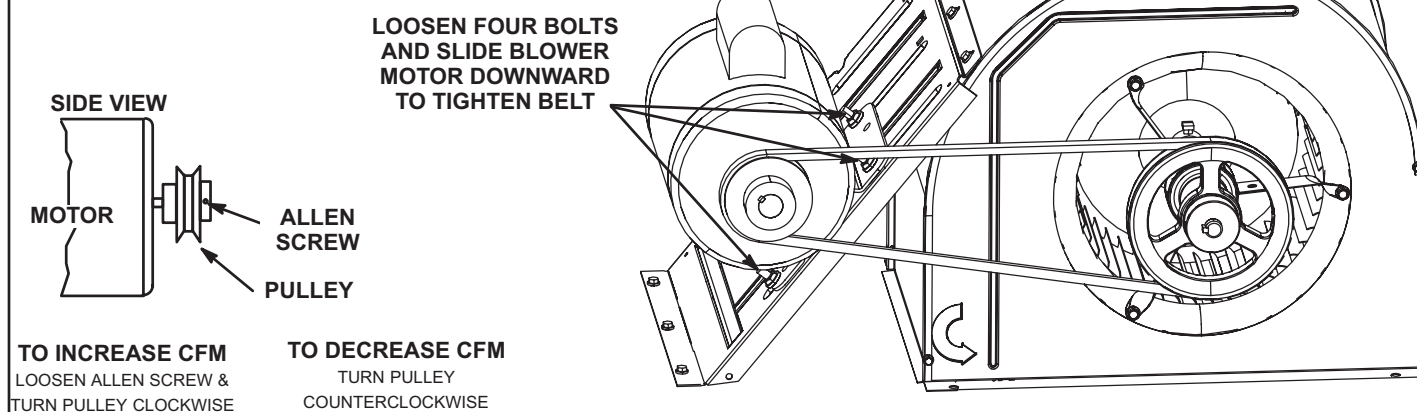

FIGURE 10
- 5 - The blower RPM can be adjusted at the motor pulley. Loosen Allen screw and turn adjustable pulley clockwise to increase CFM. Turn counterclockwise to decrease CFM. See FIGURE 10. Do not exceed minimum and maximum number of pulley turns as shown in TABLE 1.
- 1 - Loosen four bolts securing motor base to mounting frame. See FIGURE 10.